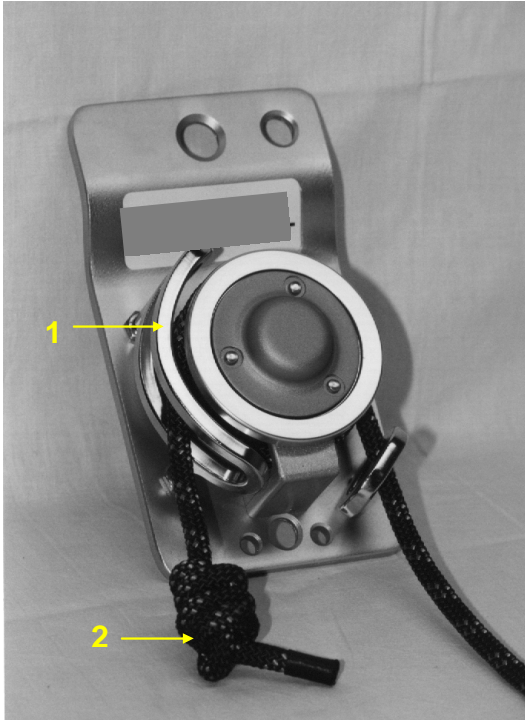

Figure 15
4. **Secure the rope end** (2) through a knot. (Abb. 15).